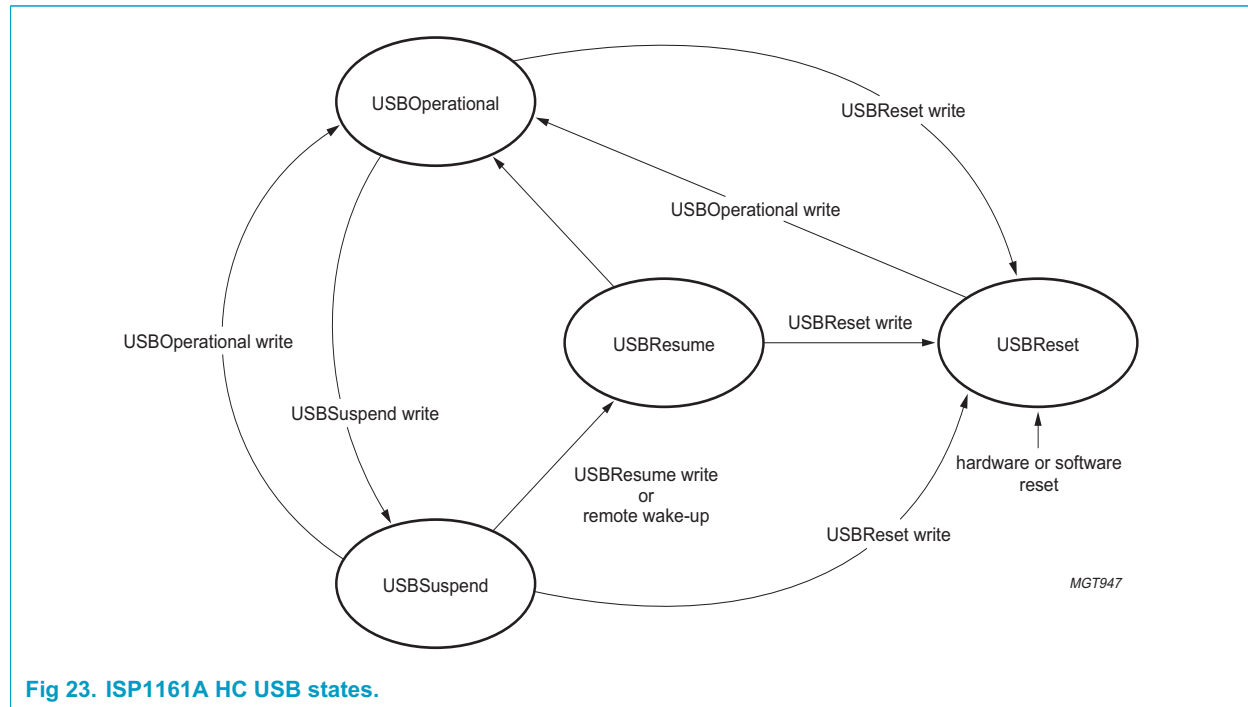

Fig 23. ISP1161A HC USB states.
The Host Controller Driver (HCD) can perform only the USB state transitions shown in Figure 23.
**Remark:** The Software Reset in Figure 23 is not caused by the HcSoftwareReset command. It is caused by the HostControllerReset field of the HcCommandStatus register (02H - read, 82H - write).